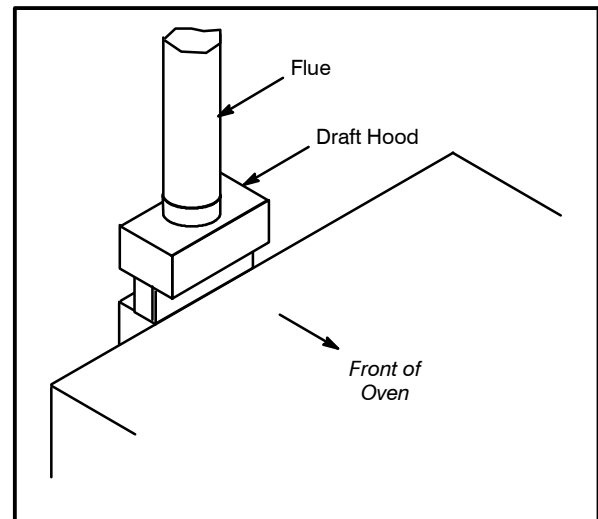

Figure 9
1. Place the draft hood over the flue connector. See Figure 9.